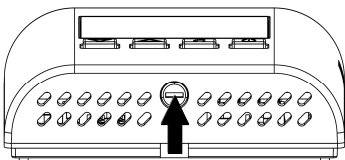

Fig. 4
- 2 Push, with the help of a screwdriver, the plastic tooth located on the slot on the bottom side, then slightly lift up the plastic cover (Fig. 4).